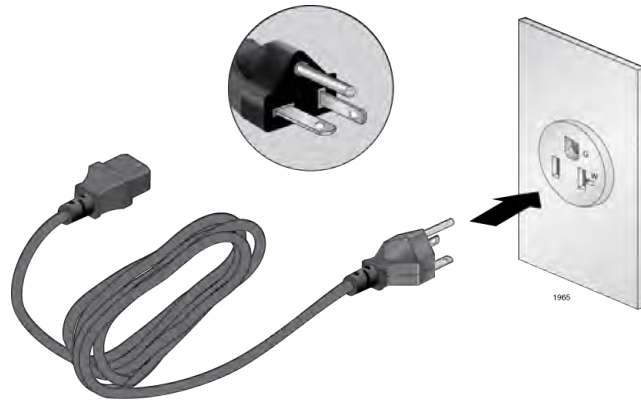

Figure 36. 100 - 125 VAC 125 V NEMA 5-20 Plug and Receptacle
- ☐ The power cords provided with the AT-SBxPWRSYS1 and AT-SBxPWRPOE1 AC Power Supplies for 100-125 VAC installations have 20 Amp, 125 V NEMA 5-20P plugs. The plugs are only compatible with NEMA 5-20R receptacles. See Figure 36 on page 105.